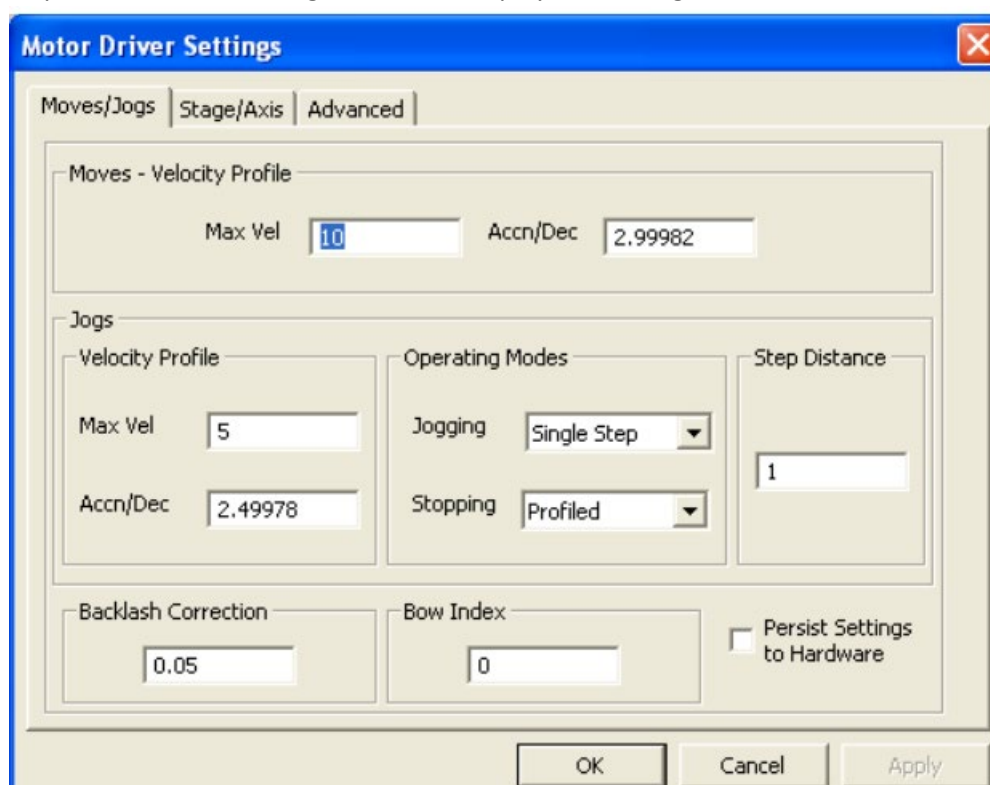

Figure 15 Settings Panel – Move/Jogs Tab
During PC operation, the motor actuators are jogged using the GUI panel arrow keys. There are two jogging modes available, 'Single Step' and 'Continuous'. In 'Single Step' mode, the motor moves by the step size specified in the Step Distance parameter. If the jog key is held down, single step jogging is repeated until the button is released – refer Figure 15. In 'Continuous' mode, the motor actuator will accelerate and move at the jog velocity while the button is held down.
2. Select the Move/Jogs tab as shown in Figure 15.